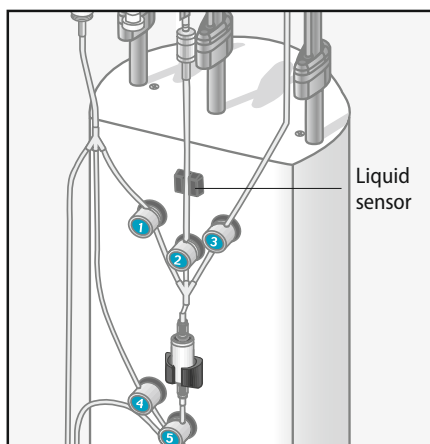

Figure 4-3.4: Tubing in valves
2. Mount the tubing between valve no. 2 and the twist-off cap into the liquid sensor (see Figure 4-3.4). Ascertain that the tubing is placed correctly into the sensor fitting.